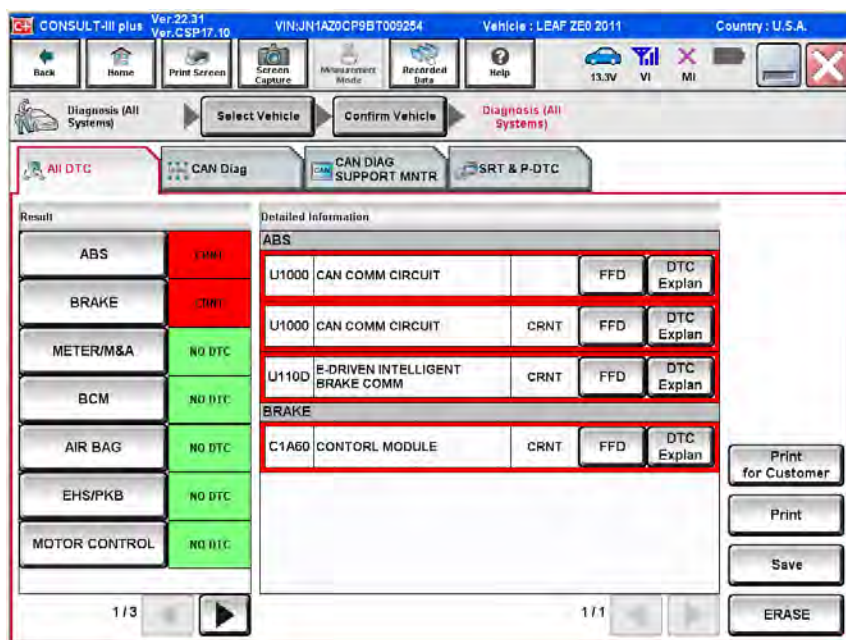

Figure 28
35. To clear any remaining DTC's (as shown in Figure 28):